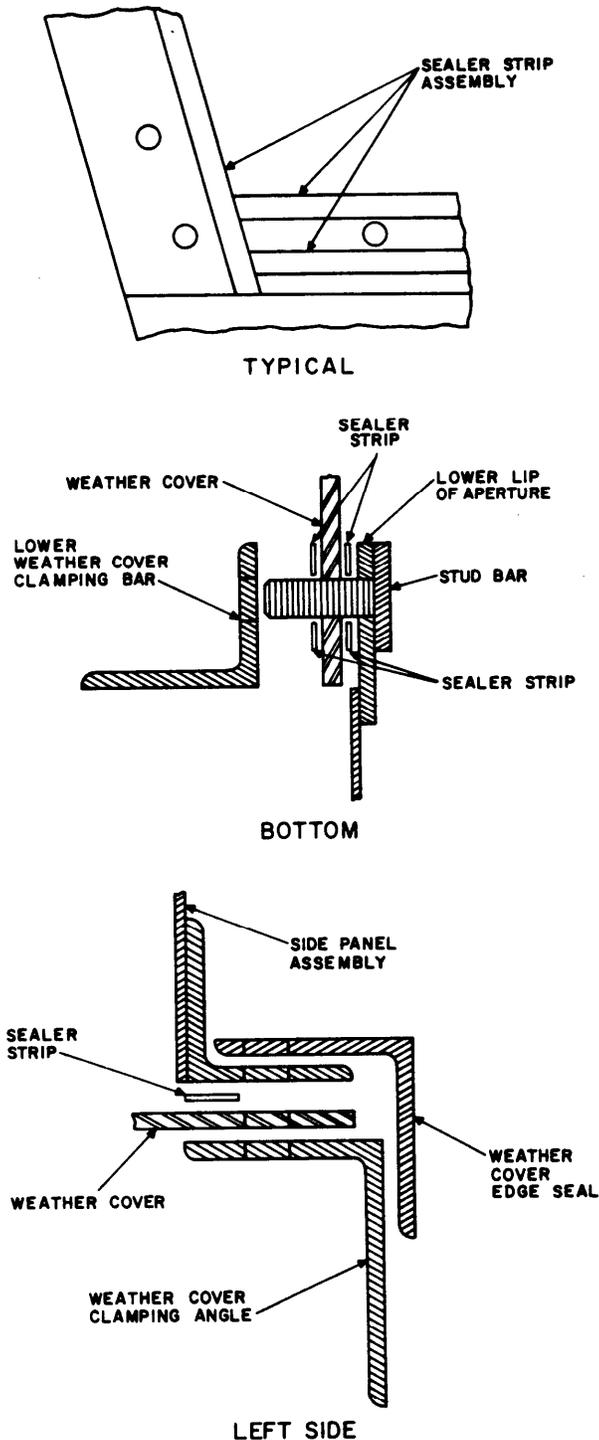

Fig. 12—Location of Sealer Strip Assembly for Weather Cover
5.29 Place a continuous ribbon of the sealer strip assembly inside the bolt hole pattern of the side panel. Place a sealer strip on each side of the studs at the bottom edge of the weather cover opening and across the ends between the end hole and first stud. Location of the sealer strip assemblies is shown in Fig. 12. Make sure the strips are butted at all corners. The sealer strip assembly should be oriented so the wire fin is towards the pressurized side of the joint except at the lower window clamping bar where all four strips should have the sealant toward the studs.
5.31 Apply the sealer strips on the joining surfaces of the lower clamping angle on both sides of the stud holes and across the ends inside the end holes as shown in Fig. 12.